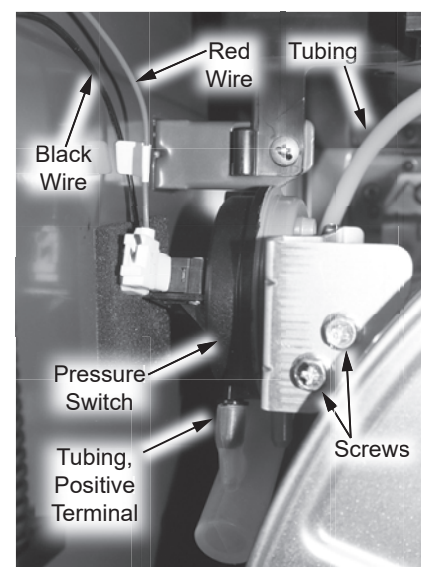

Figure 144 - Pressure switch assembly location
- 36** Locate the pressure switch assembly on upper left side of the heat exchanger as shown in Figure 144.
- 64** Connect tubing from pressure switch assembly to the port located on the heat exchanger exhaust as shown in Figure 30. Confirm tubing is fully secured to heat exchanger. Confirm tubing is connected to the positive terminal (black side) of the pressure switch assembly as shown in Figure 144.
- 65** Connect pressure switch wires previously removed in **Step 39**. Red connection is on the right and black connection is on the left. Confirm connections are tight and routed properly as shown in Figure 144.
- 66** Install pressure switch assembly to heat exchanger. Secure with the two (2) screws previously removed in **Step 38**.